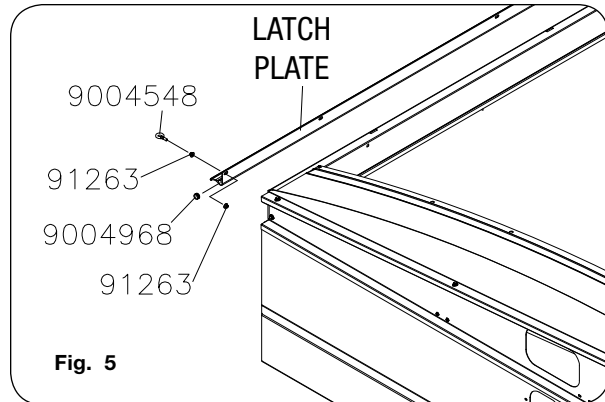

Fig. 5
3. Assemble mounting bezel to fender using provided hardware. Position light terminals over 1/16" diameter hole and push light into mounting bezel for a snap fit, see figure 4. On the underside of fender, align the wire terminal harness to the light and firmly push-on. See figure 5.
- Secure latch plate to front of panel with eyebolt (9004548) and two flange nuts (91263). See Figure 5.